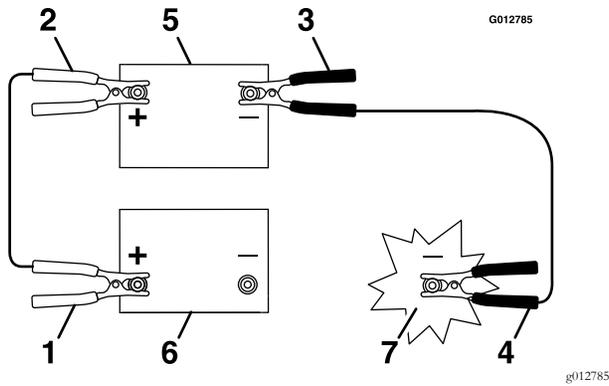

Figure 36
3. Connect the positive (+) cable to the positive (+) terminal of the discharged battery that is wired to the starter or solenoid as shown in Figure 36.